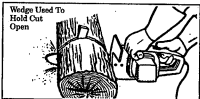

Figure 24
If saw becomes pinched or hung in a log, don't try to force it out. You can lose control of the saw resulting in injury and/or damage to the saw. Stop the saw, drive a wedge of plastic or wood into the cut until the saw can be removed easily. Figure 24. Restart the saw and carefully reenter the cut. To avoid kickback and chain damage, do not use a metal wedge. Do not attempt to restart your saw when it is pinched or hung in a log.
3. BUCKING WITHOUT A SUPPORT (Figure 24)